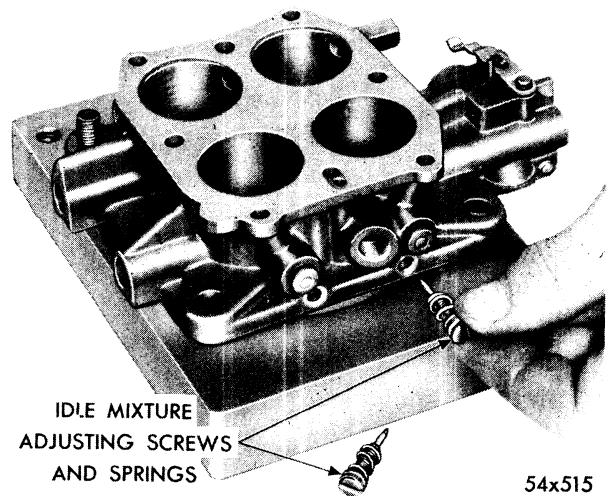

Fig. 37—Removing or Installing Idle Mixture Adjusting Screws
- (12) Remove the two idle mixture adjusting screws and the springs from the throttle body, as shown in Figure 37.
(See Fig. 37). The tapered portion must be straight and smooth. If the tapered portion is grooved or ridged, a new idle mixture adjusting screw should be installed to insure having correct idle mixture control. **DO NOT USE A SCREWDRIVER.** The adjustment should be made with the fingers. Turn the idle mixture adjusting screws lightly against their seats, and back off one full turn for approximate adjustment.